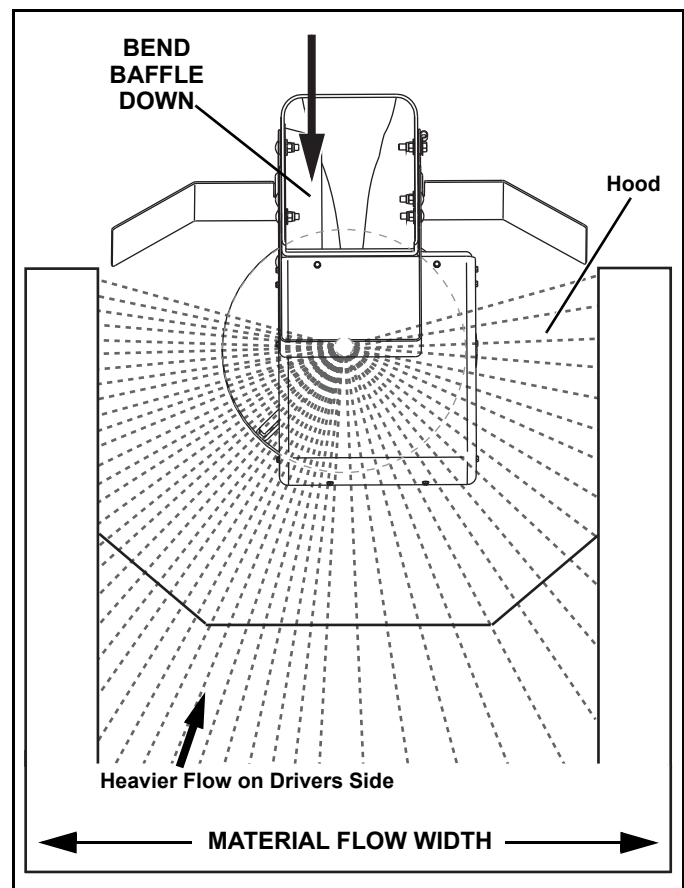

Figure 2-6 Driver Side Heavier Flow Shown
5. Adjustment of internal baffle will concentrate the flow to desired areas; To the passenger side (more centrally located) and to the driver's side. (See Figure 2-6)